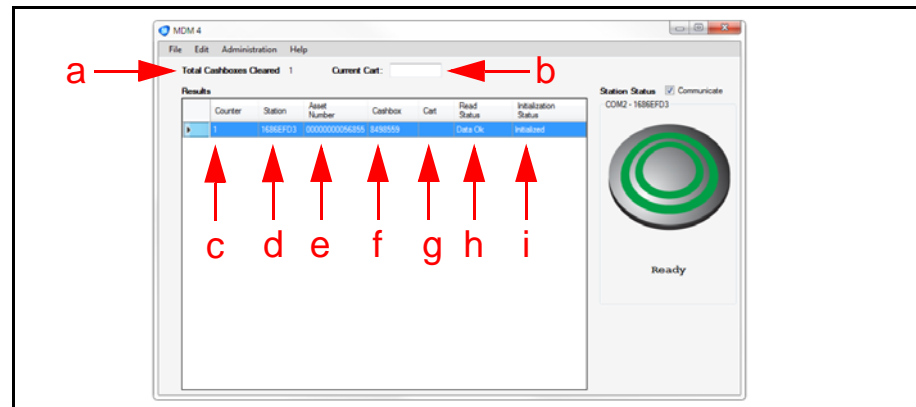

Figure 34 Cash Box Docking Results Screen
**Cashbox:** Indicates a numerical value representing the Cash Box Serial Number (Figure 34 f). Each Cash Box Memory contains its own unique Cash Box Serial Number. If the Cashbox Data Field is empty, cannot be read, or contains a corrupted value when docked, the MDM4 Program will automatically assign a new Number to the Cash Box. For information on Cash Box numbering, refer to Setting MDM4 Cash Box Numbers on page 12 of this guide.
**Cart:** The Cart Number associated with the Cash Box being docked (Figure 34 g).
**Read Status:** indicates the data transfer status from the Cash Box to the Read-Write Tool. If the Data Transfer was successfully completed without errors, then the Read Status will indicate 'Data OK' (See Figure 34 h). If the Read Status displays 'No Data', it indicates that the Cash Box Memory Circuit contained no data, or failed to read properly when placed on the Read-Write Tool. Try re-docking the Cash Box again. If the Read Status displays 'Checksum Error', it indicates that the Checksum value calculated by the MDM4 Program for the particular data stream just read from the Cash Box, does not match the Checksum value stored in the data stream itself. Try re-seating the Cash Box. If the failure persists, it may be due to a lost or corrupted data bit in the Memory Circuit or a defective Memory Module.
**Initialization Status:** indicates the Cash Box Status at completion of the docking process. If the display shows 'Initialized' (See Figure 34 i) it indicates that the Cash Box has been read, the data has been transferred, the Memory Circuit has been cleared, and the Cash Box is ready for use again in any Asset on the Casino Floor. If the display shows 'Not Initialized', it indicates that the Memory Circuit in the Cash Box Memory Module has not been cleared, and that Asset Data is still present in Memory. This is usually the result of docking the Cash Box to the Read-Write Tool with the 'Read Only' option set active. For information on Read and Erase options, refer to Read Only and Data Erasing Options on page 15 of this guide. If the 'Not Initialized' message is displayed while operating in the 'Read and Erase' Mode, then try re-docking the Cash Box again to re-initialize it.
As each Cash Box is docked and read, docking results and additional information (described below) are displayed on the MDM4 Main Screen (Figure 34).
**Total Cashboxes Cleared:** An incrementing numerical value indicating the total number of Cashboxes that have been docked, read, and cleared (initialized) during the currently open MDM4 Programming Session. This value starts again from Zero each time that the MDM4 Program is run (Figure 34 a).
**Current Cart:** A data entry field for inputting the Cart Number for the Cash Boxes being docked (Figure 34 b). The Cart Number is then associated with each Cash Box and shown in the Cart column (Figure 34 g).
**Counter:** Indicates the total number of Cash Boxes docked, and a numerical value representing each Cash Box's position in the docking sequence. For example, a Counter Value of '1' indicates the first Cash Box docked during the current MDM4 Programming Session, while a Counter Value of '3' indicates the third Cash Box docked (Figure 34 c).
**Station:** Identifies the Read-Write Tool that docked the associated Cash Box at the time it was read (Figure 34 d). The text or value displayed here may be customized using the Station Status Identifier (refer to Page 26). If not previously defined, the default value displayed in this field will be the Read-Write Tool's Serial Number.
**Asset Number:** Indicates a numerical value identifying the Asset from which the associated Cash Box was removed during the current Drop Cycle. The value is accurate as long as the Asset Number assigned to the Bill Validator is the same as the Asset Number of the Game or Machine in which it was initially installed (Figure 34 e). If the Asset Number Data Field is empty, contains no value, or shows all Zeroes, the Cash Box failed to properly record the Asset Number. This may be due to a Validator with no Asset Number assigned, a Validator whose ICB function is disabled, an improperly seated Cash Box, or a Cashbox Memory Module error.